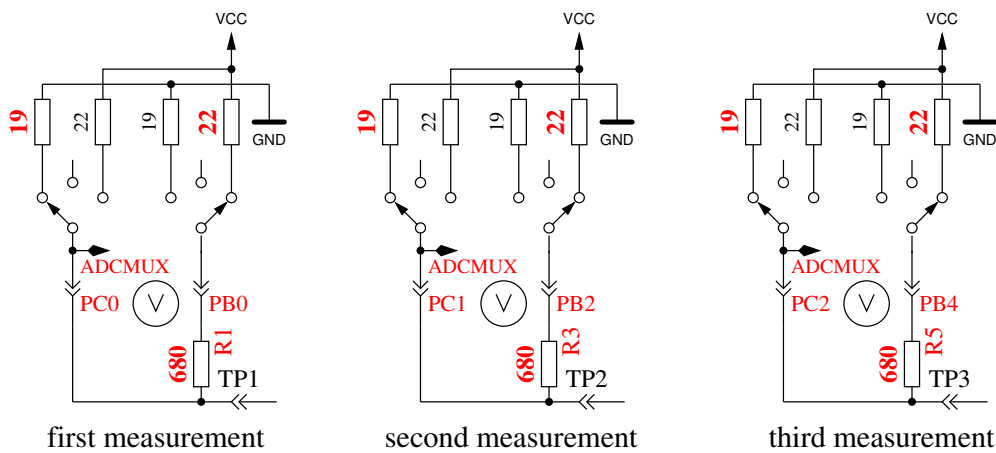

Figure 5.34: Measurement of internal resistance of Port C switched to GND
5. **This step tests the capability of GND (-) connected 470kΩ resistors (H) to pull the test pins to GND.** Row 1 shows the text “RH-”. Row 2 should display zero for all three pins.
6. **This step tests the capability of VCC (+) connected 470kΩ resistors (H) to pull the test pins to VCC (+).** Row 1 shows the text “RH+”. The best value for this three measurements is 5001. Great differences from the best value for test 5 and 6 are errors such as isolation problem, flux material or damaged port.
7. **Measuring of internal resistance of pin output switched to the GND signal.** The text in the 1st LCD row is “Ri.Lo = (mV)”. In the second row of the LCD three voltages were displayed. The internal resistance of the port C outputs switched to GND (-) are measured with the current of to VCC (+) switched 680Ω resistors, see Figure 5.34. Only the three pins of the ADC port are measured, the resistor port B (PB0, PB2 and PB4) can not be measured without hardware modification. It is assumed that the port resistance of the different ports are nearly identical. To get the resistor values, you must divide the displayed mV values by about 7 (see test 8).